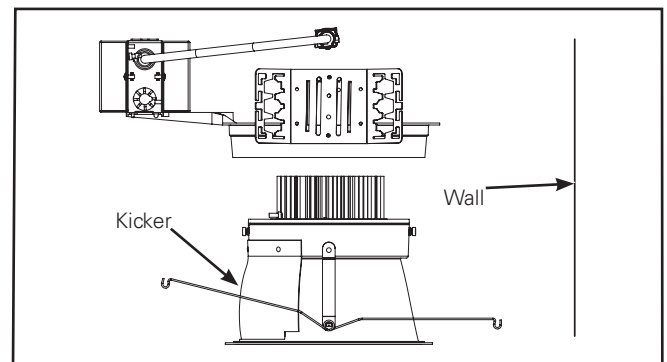

Figure 9.
- See illustration (wall wash option only). (Figure 9.)